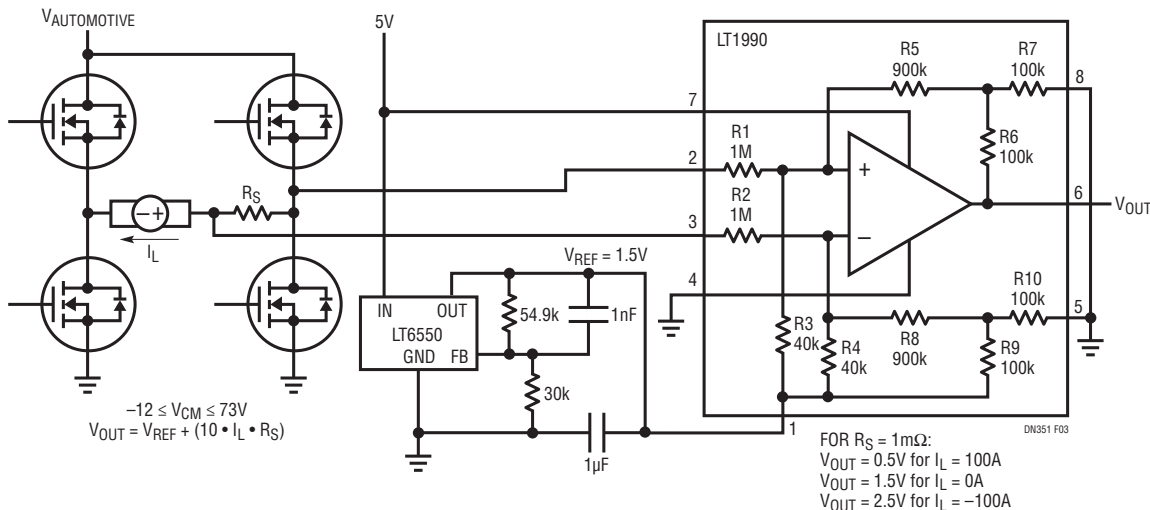

Figure 3. Offsetting a Bidirectional Signal for Unipolar Processing
since the output is “saturating” (even with rail-to-rail types). A design solution is to have a voltage reference circuit drive the REF port of input instrumentation amplifiers (IA), thereby introducing a controlled offset mapping that allows the ADC to accurately capture the “zero input” signal level, or even provide a controlled negative signal conversion range within a positive-only input window. Figure 3 shows a single supply powered LT1990 difference amp sensing a bidirectional motor current. The LT6650 reference is configured to provide an optimal REF input level for the circuit (1.5V in this example) which both establishes the working common mode input range and introduces an output offset that maps the desired bidirectional signal span into a single supply ADC conversion range. In high accuracy applications, the offset voltage itself may also be digitized so that software algorithms can accurately “auto-zero” the measurements. In multichannel data acquisition systems, a single LT6650 can generally provide offset signaling to an entire IA array.